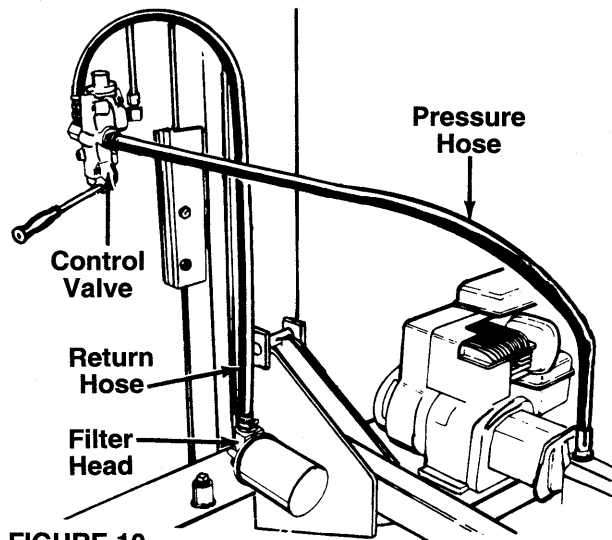

FIGURE 10.
2. Attach the end of the hose to the fitting on top of the filter head. See figure 10. Place the hose clamp at the base of the fitting, and tighten securely.
The pressure hose is attached to the top of the pump. Route the hose as shown in figure 10. Secure the pressure hose to the bottom of the control valve, using an adjustable wrench.